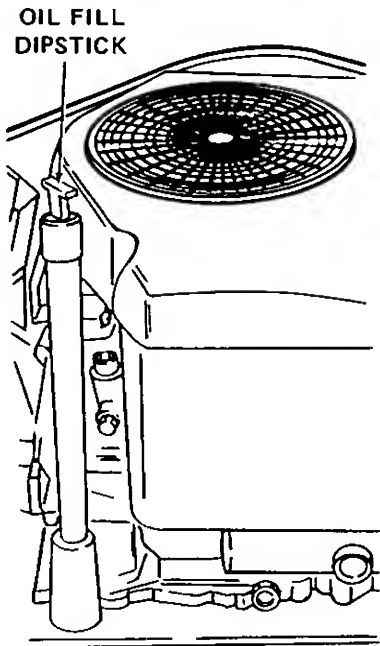

Figure 14
- 1. Check oil level. The oil fill and dipstick are located on the right rear side of the engine. (Refer to Figure 14.)